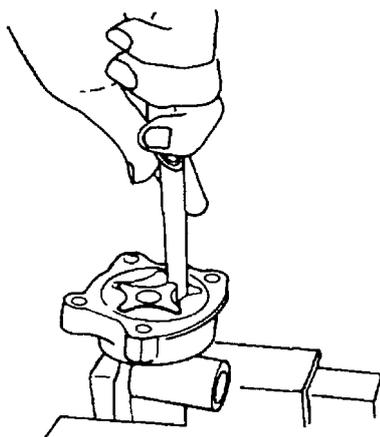

Figure 31 Checking Inner to Outer Rotor Clearance
- h. Using a feeler gauge, check the clearance between the inner rotor and outer rotor (Figure 31). The clearance should be 0.14 mm (0.0055 in) or less. If it is outside this limit, replace the gear set.